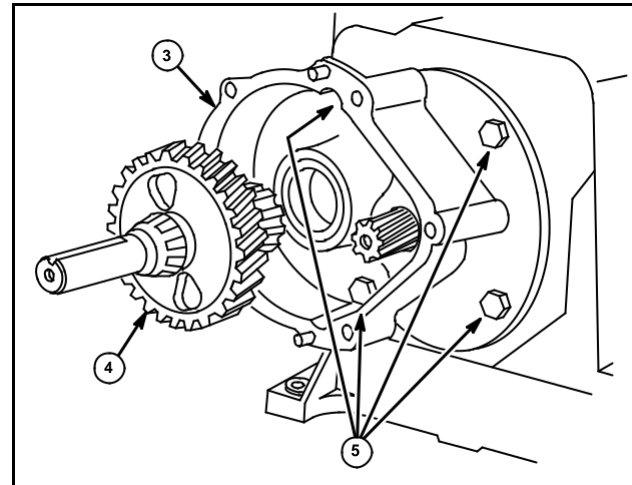

Fig. 41
Remove four cap screws (5) and lock washers. Slide gear case (3) and drive shaft assembly (4) off engine, Fig. 41.